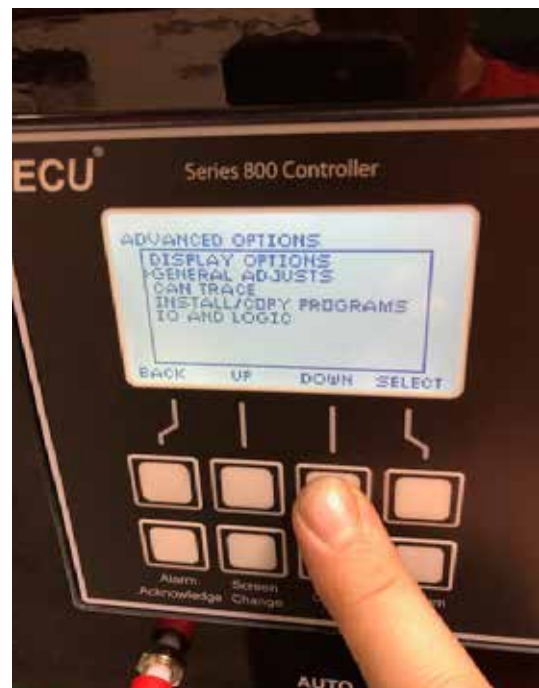

Figure 18. General Adjusts
12. Scroll down the list and select **GENERAL ADJUSTS** (Figure 18).